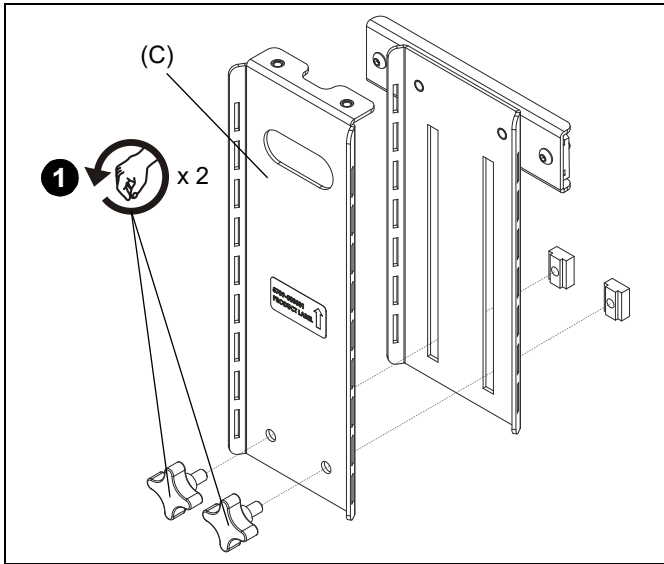

Figure 1
**IMPORTANT !** : If installing to displays larger than 65", height-adjustable bracket (C) will need to be disassembled and reassembled in order to achieve a longer length. For smaller displays, proceed to Step 3.
1. (Displays 65" and larger ONLY) Remove height-adjustment knobs from height-adjustable bracket (C). (See Figure 1)